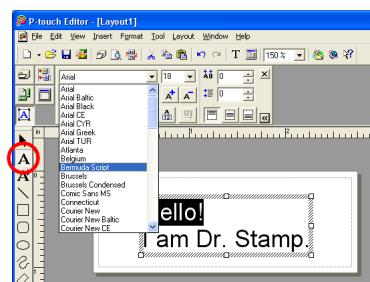

figure 3
- ① Display the Text Properties.
- ② Use the Text Input tool to highlight the text to be changed.
- ③ From the “Font” drop-down list, select the desired font (see figure 3).